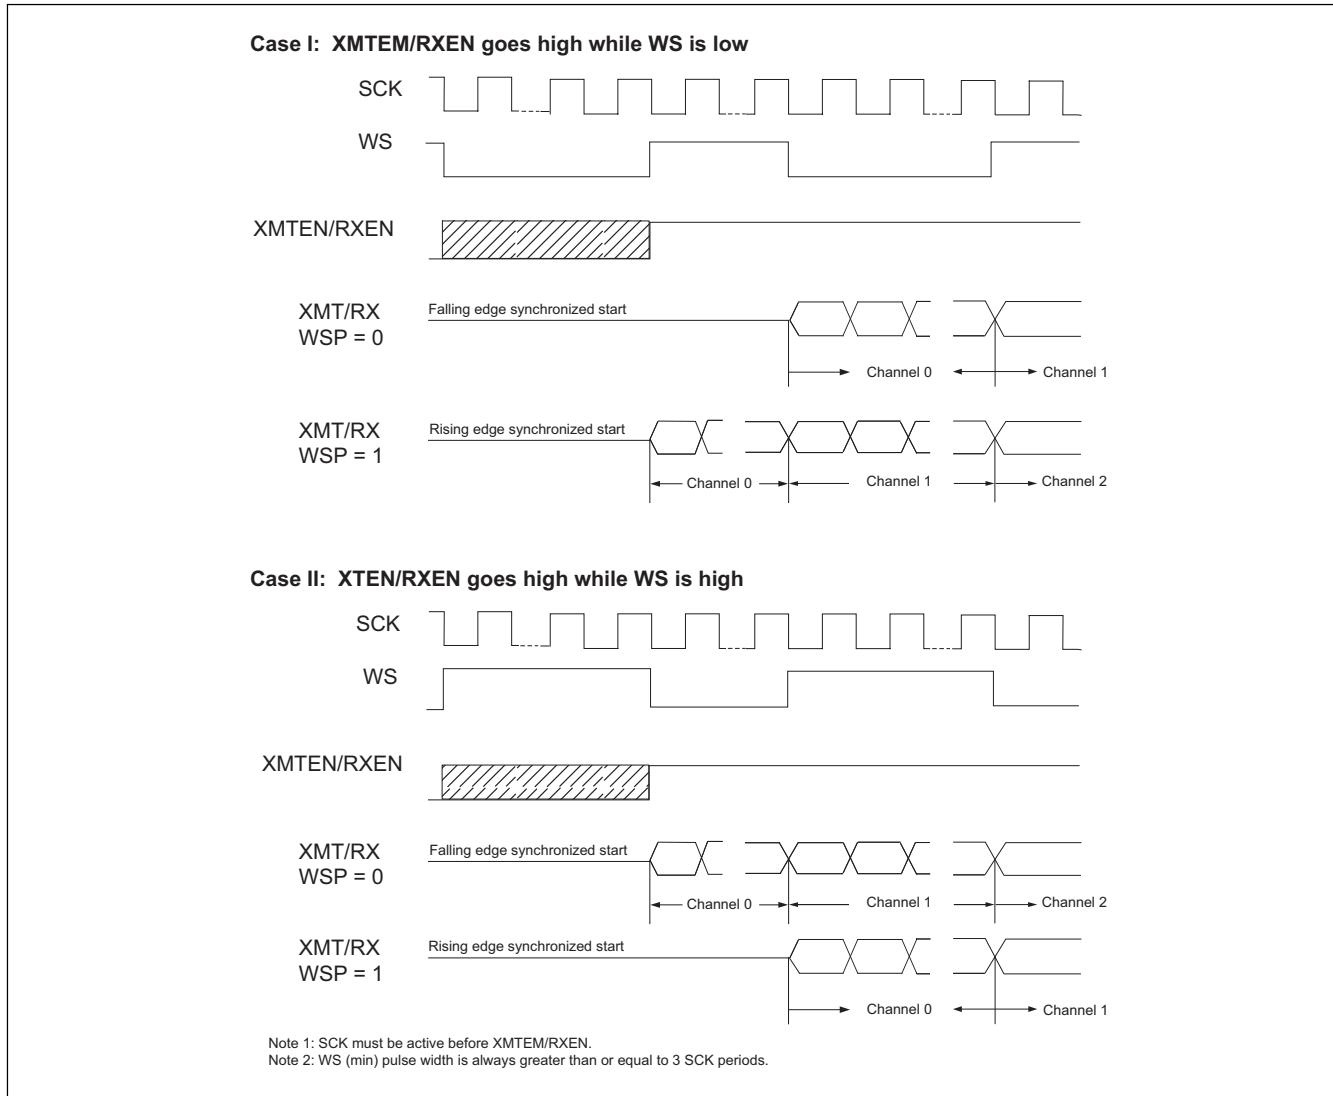

Figure 1.118. Transmit and receive data synchronized to WS
- Transmit and receive synchronized to the rising or the falling edge of WS as shown in Figure 1.118.